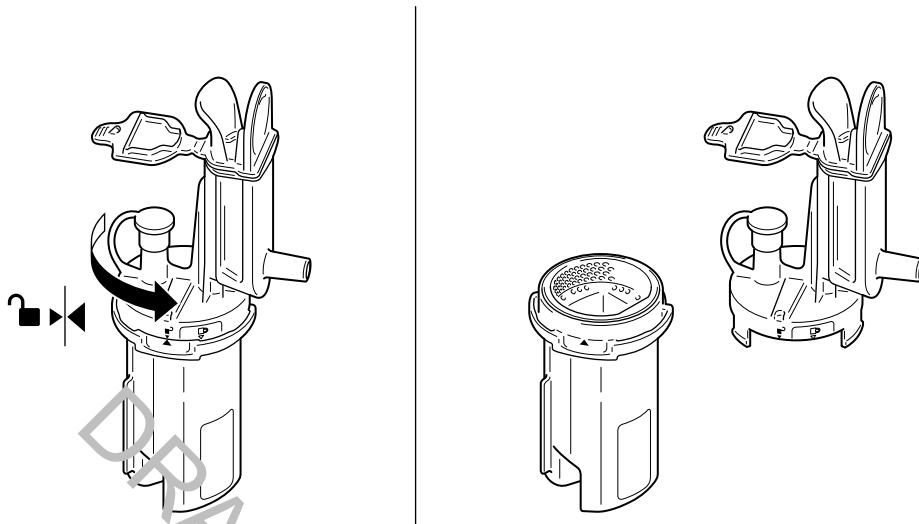

Figure 33 – Access Secondary Collection Basket
4. Holding the manifold in a vertical orientation, twist the front housing cap of the manifold counterclockwise to open the manifold and access the secondary collection basket (Figure 33).